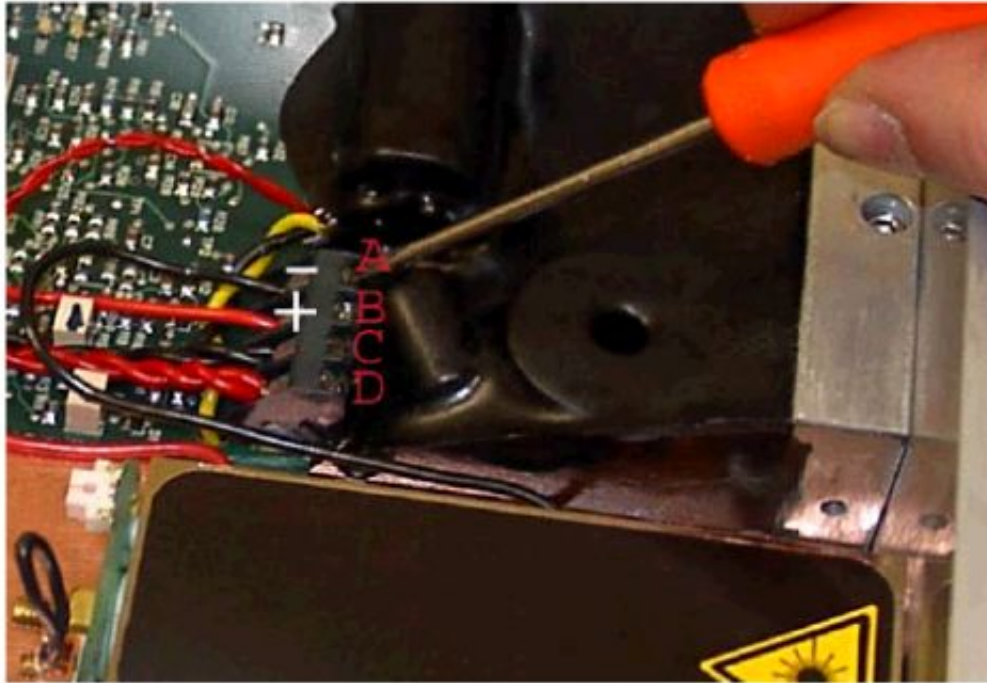

fig. 12
10) Unscrew the screws which hold the Peltier power supply black and red cables [fig.12]
14) Fix the Peltier black and cables as before. [as fig.12]